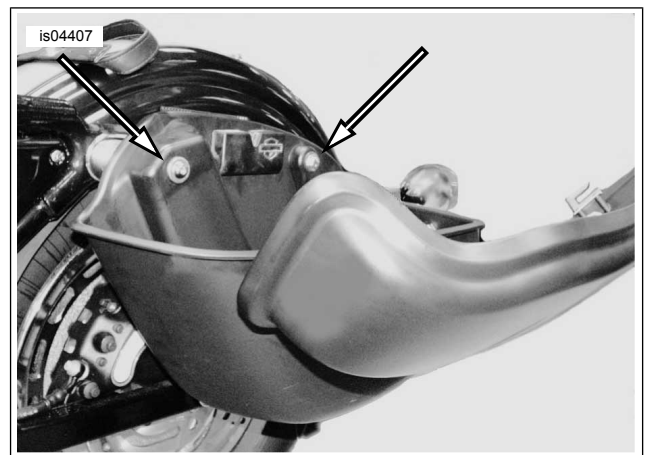

Figure 14. Saddlebag Mounting Hardware
9. See Figure 14. Place saddlebag assembly on motorcycle and attach to fender cover with two screws.